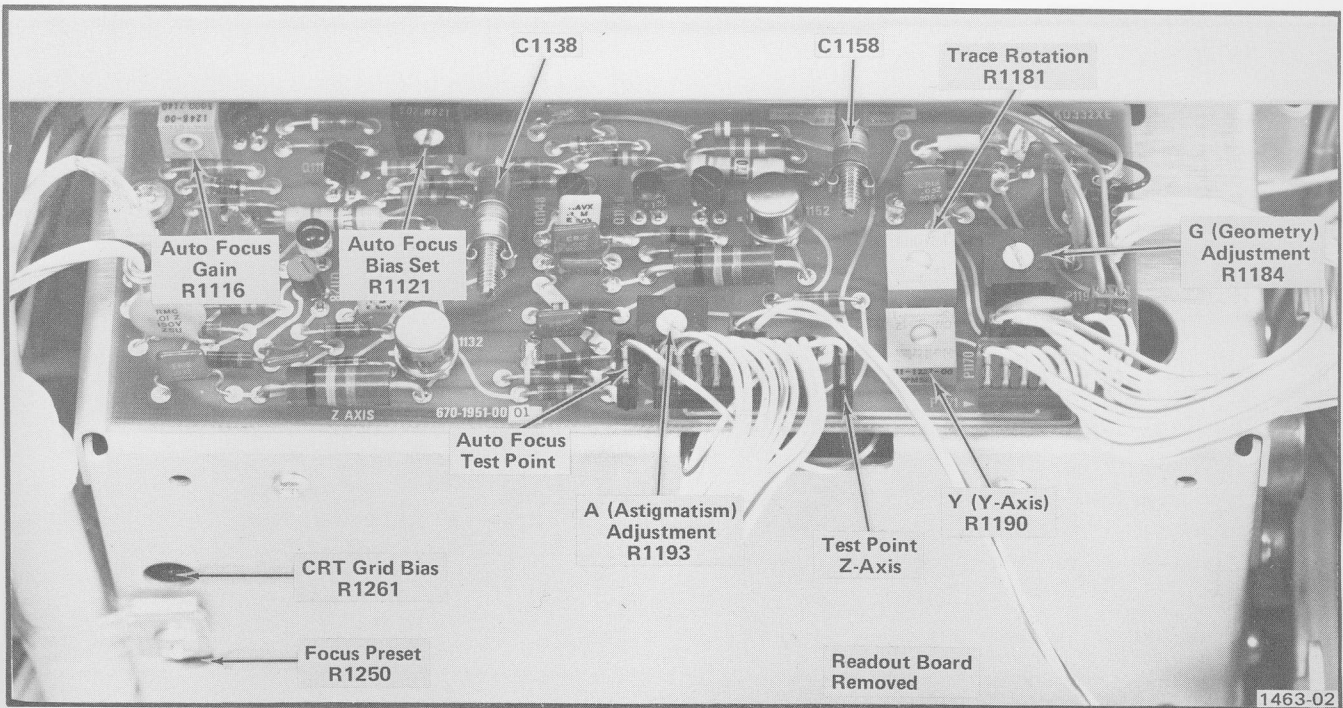

Fig. 3-2. Location of Display and Z Axis adjustments and test points.
- d. Connect a 10X probe from the test-oscilloscope to the Z-Axis test point (see Fig. 3-2) and the probe ground lead to chassis ground.
- g. ADJUST-CRT Grid Bias adjustment R1261 (see Fig. 3-2) until the trace on the 7603 is just extinguished. Set INTENSITY for a viewable trace.
i. Adjust—C1158, for optimum square leading corner of the positive leading edge of the waveform (use a low capacitance screwdriver). See Fig. 3-2 for adjustment location.
a. Connect the 10X probe to the Auto Focus Test Point. See Fig. 3-2 for adjustment location.
c. Adjust—C1138, for optimum square leading corner of the positive leading edge of the waveform (use a low capacitance screwdriver). See Fig. 3-2 for adjustment location.
k. Adjust—Focus Preset, R1250, and Astigmatism, R1193, for optimum focus. See Fig. 3-2 for adjustment location.
l. Connect a 10X probe from the test oscilloscope to the Z-Axis Test Point. See Fig. 3-2 for location.
o. Adjust—Auto Focus Bias Set, R1121, for optimum focus. See Fig. 3-2 for adjustment location.
q. Adjust—Auto Focus Gain, R1116, for optimum focus. See Fig. 3-2 for adjustment location.
d. ADJUST—Trace Rotation adjustment R1181 (see Fig. 3-2) to align the trace with the center horizontal line.
d. ADJUST—Y-Axis adjustment R1190 (see Fig. 3-2) to align the trace with the center vertical line.
l. ADJUST—Geometry adjustment R1184 (see Fig. 3-2) for minimum bowing of time markers. Adjustment may have to be compromised to obtain less than 0.1 division bowing and tilt everywhere within the graticule area.